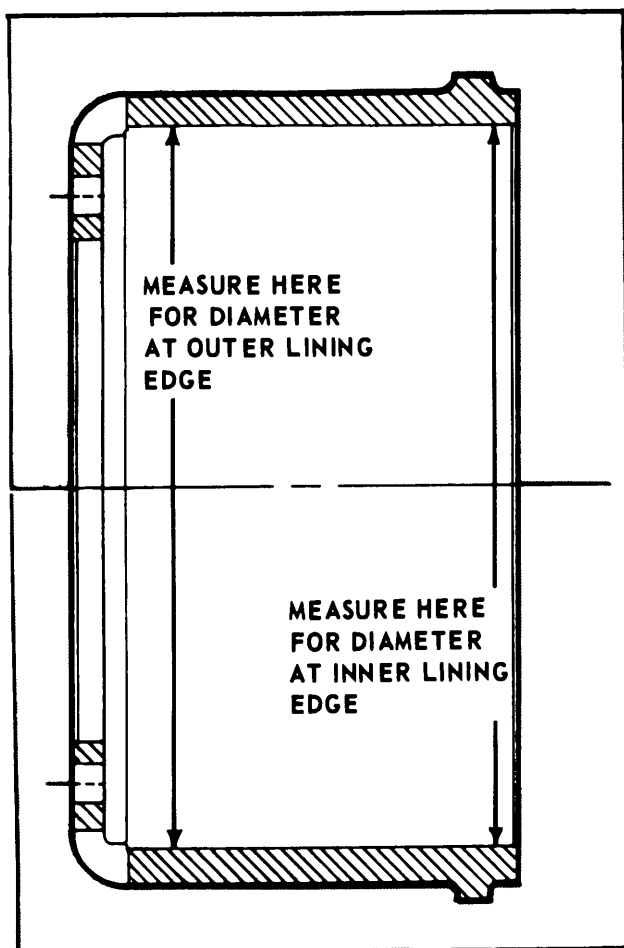

FIGURE 8-4. CHECKING FOR BELL MOUTHING.
- b. Bell mouthing - Drums can be checked for inside diameters at both edges of lining contact points. Differences in diameter of more than .010 in. (.254 mm) should be turned out (see figure 8-4).